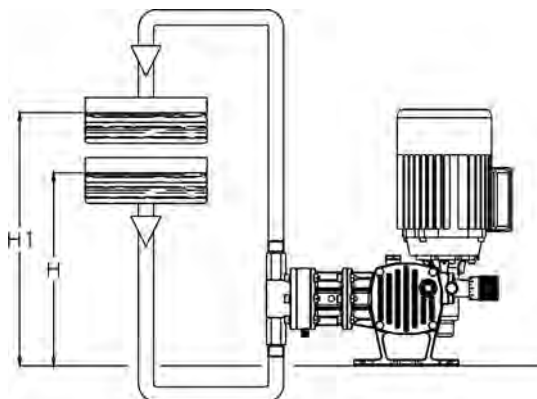

Fig. 6 – Ideal installation
- flooded suction (Ref. H - Fig.6)
- positive discharge head (Ref. H1 - Fig.6)